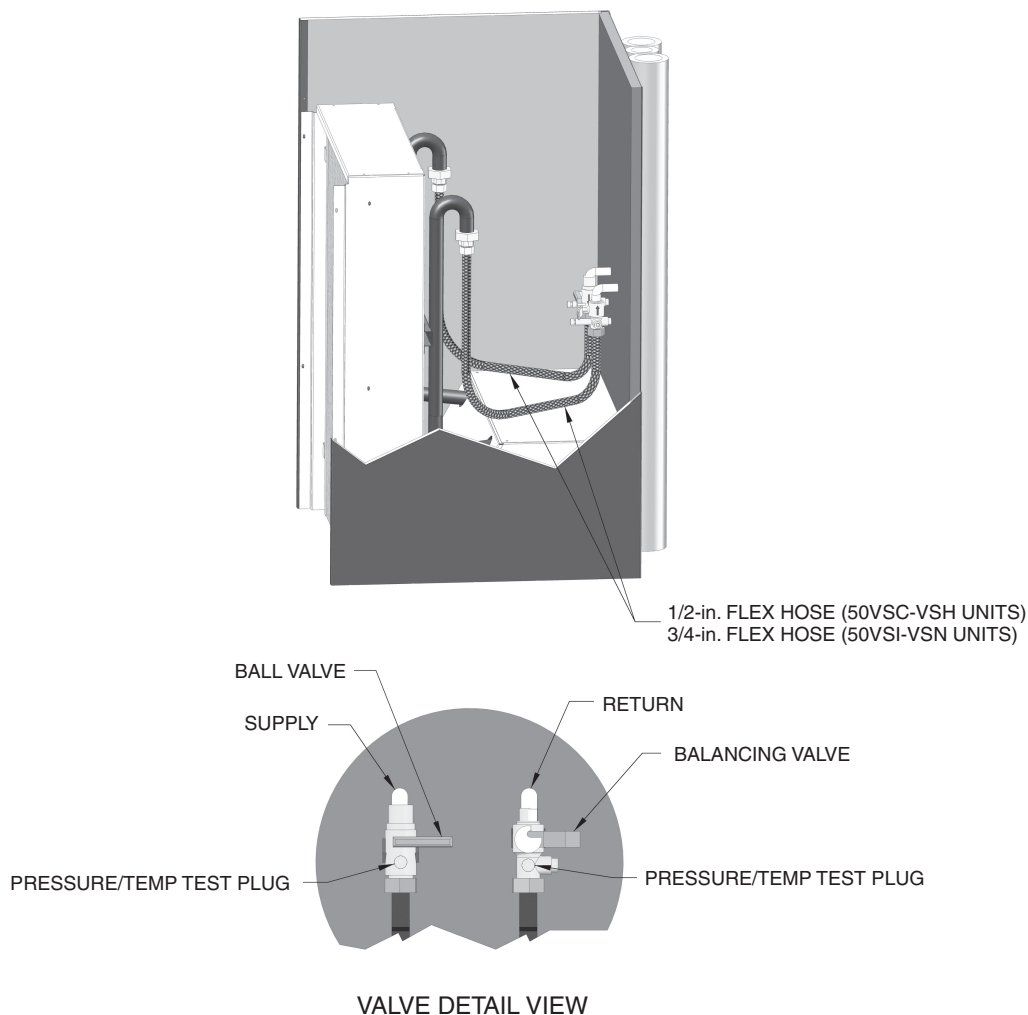

Fig. 11 — Hose Kit Installation
1. Refer to Fig. 11 for an illustration of a typical supply/return hose kit assembly.